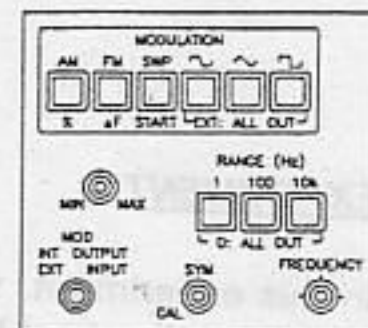

Figure 18. Modulation Section
- 1-2. Set the function generator for a sine wave output of 100 kHz at 8 Vpp as viewed on the oscilloscope. Ensure that the MODULATION oscillator is off, all modulating buttons out. (See Figure 18.)
- 1-3. Set the MODULATION section of the function generator as follows. (Refer to Figure 18.)